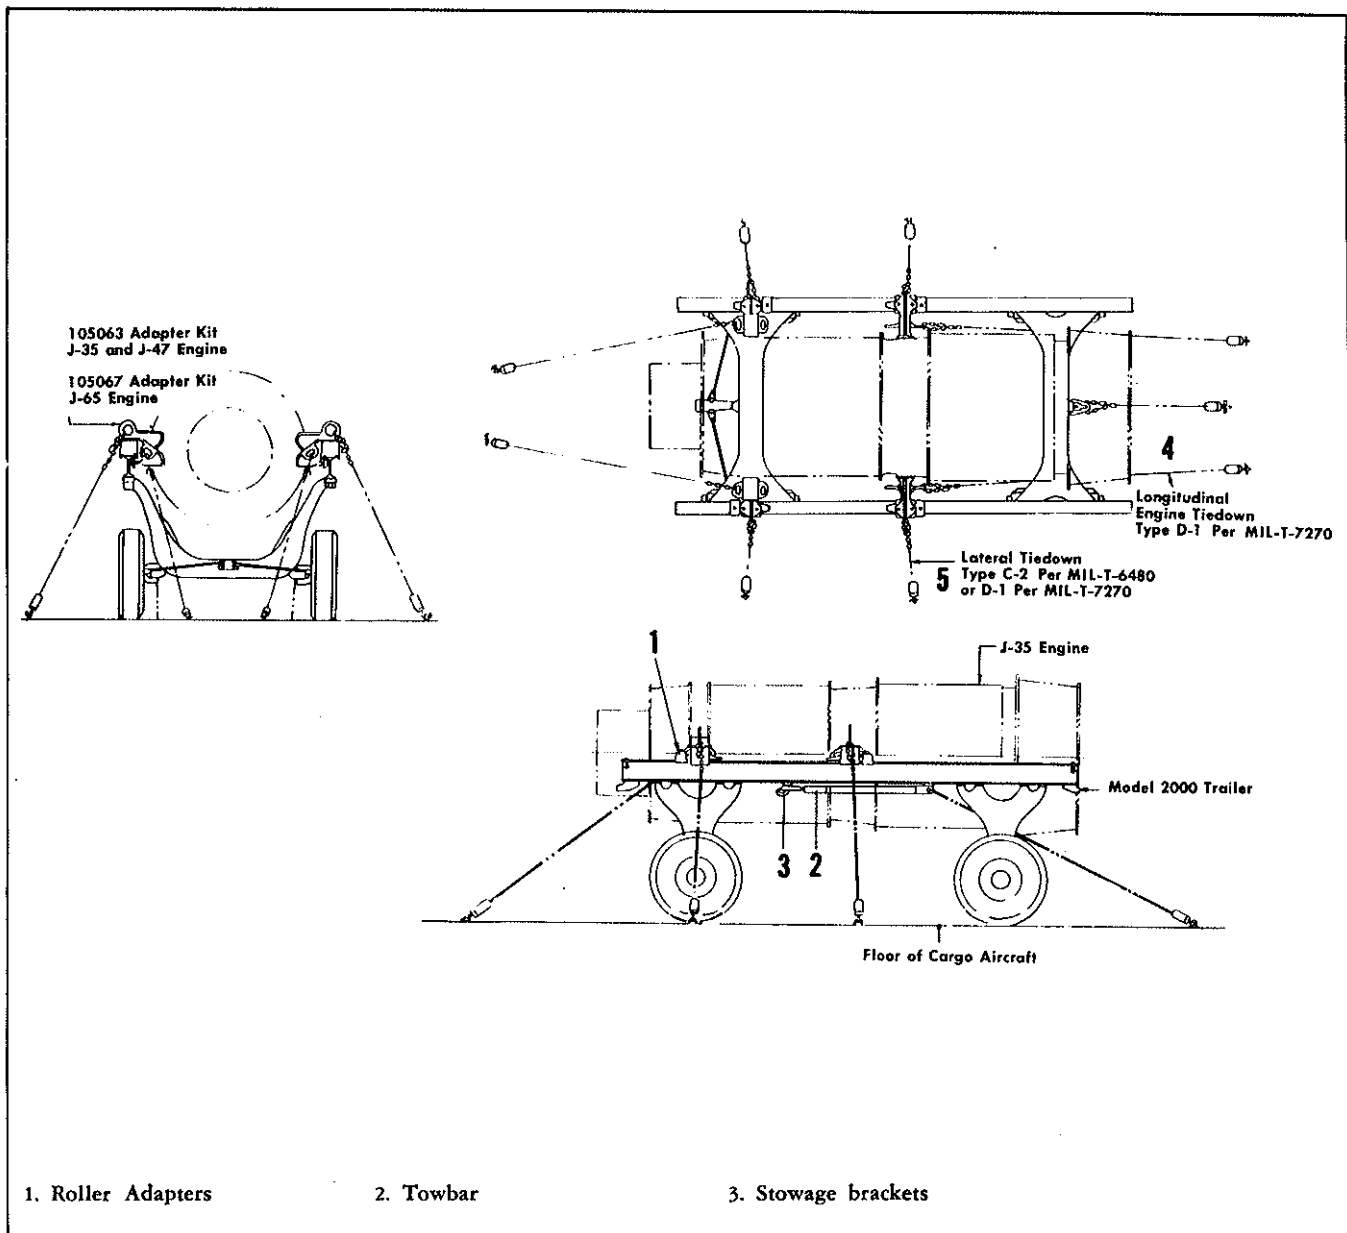

Figure 4-4. Air Shipment Tie-Down
**4-3. AIR SHIPMENT.** (See figure 4-4.)
4-8. Tie trailer down as illustrated in figure 4-4, making certain tie-downs are tight.